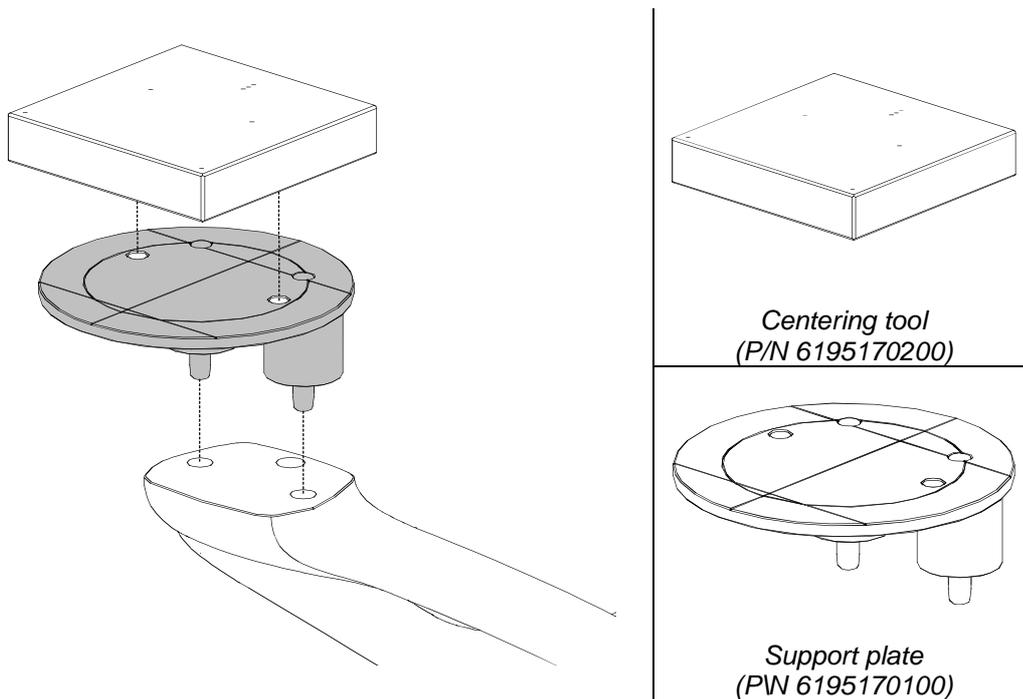

Figure 8: Support plate and centering tool positioning
4. Place the centering tool (P/N 6195170200) on the support plate (P/N 6195170100) and place it on the chin rest (Figure 8).